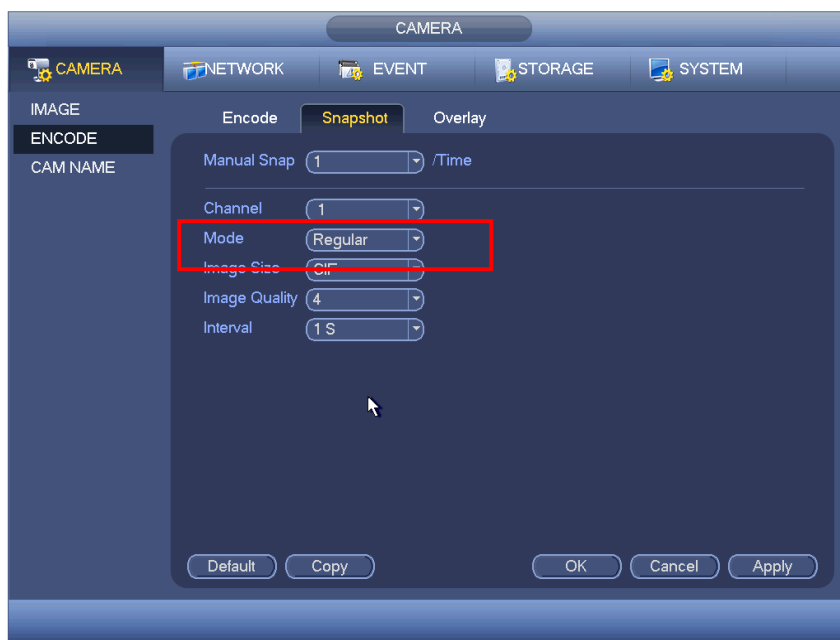

Figure 4-96
- In main menu, from Setting->Camera->Encode->Snapshot interface, here you can input snapshot mode as regular, size, quality and frequency. See Figure 4-96.